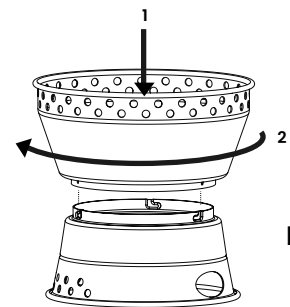

Fig. 2
- Put the Cooker Base (14) on the horizontal and stable surface made by non-flammable material, slot the bumps on the skirt of Windshield (5) into the L-grooves and turn the Windshield until it is locked (Fig.2).